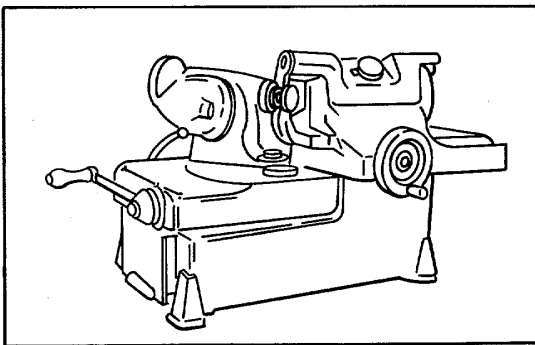
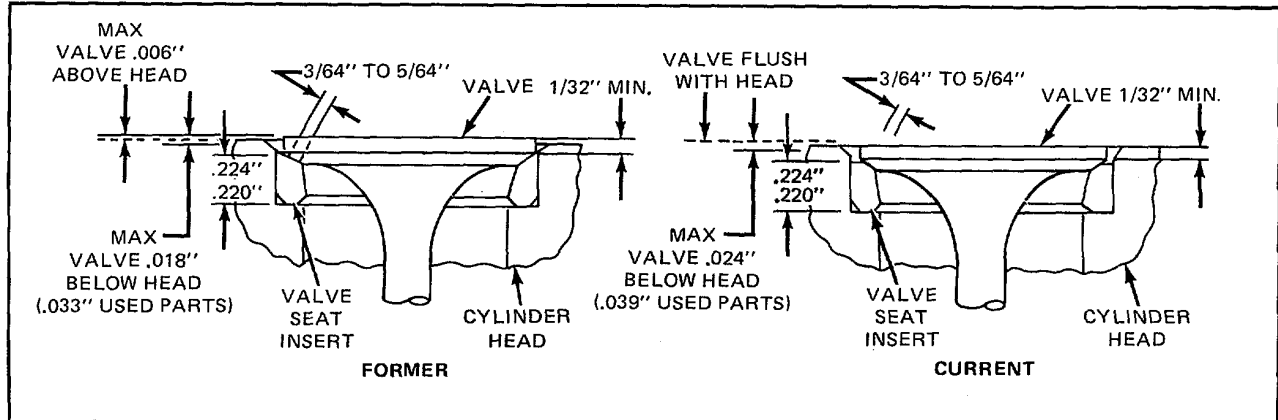

Figure 11. Refacing Exhaust Valve
Figure 13. Relationship Between Exhaust Valve, Insert, and Cylinder Head (Four-Valve Head)
An exhaust valve which is to be reused may be refaced, if necessary (Fig. 11). To provide sufficient valve strength and spring tension, the edge of the valve at the valve head must not be less than 1/32 inch in thickness and must still be within the specifications shown in Fig. 13 after refacing.
3. Then grind the top surface with a 15° wheel to narrow the width of the seat from 3/64 to 5/64 inch (Fig. 13). The 31° face of the insert may be adjusted relative to the center of the valve face with 15° and 60° grinding wheels.
The maximum amount that the exhaust valve should protrude beyond the cylinder head (when the valve is in the closed position), and still maintain the proper piston-to-valve clearance, is shown in Fig. 13. Grinding will reduce the thickness of the valve seat insert and cause the valve to recede into the cylinder head. If, after several grinding operations, the valve recedes beyond the specified limits, replace the valve seat insert.
When installing exhaust valves, check to see that the valves are within the specifications shown in Fig. 13. Also, do not use N-pistons with former four-valve cylinder head assemblies unless the valves are flush with the cylinder head. If the valves are not flush, it may be necessary to regrind the valve seats so that the valves will be flush with the bottom surface of the cylinder head.
9. Check the position of the exhaust valve (Fig. 13).